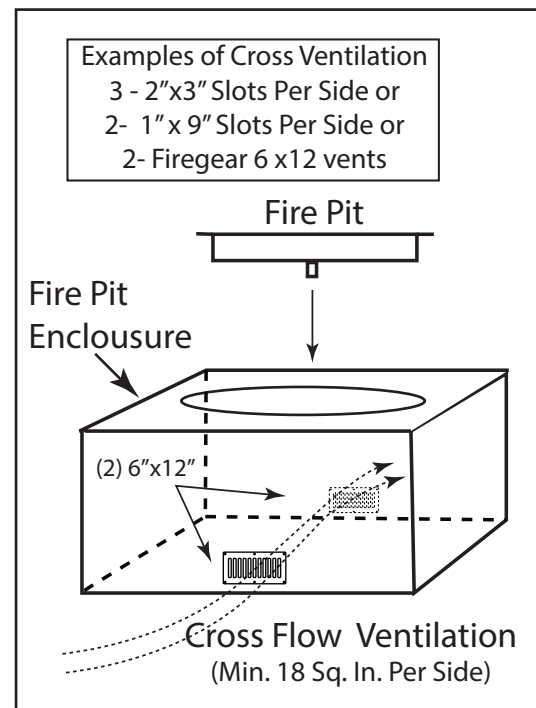

Fig. 2 Cross Ventilation Example
5. Do not place an LP tank inside any fire pit enclosure. Locate all propane (LP) tanks outside the enclosure.
6. To prevent performance problems in Propane (LP) fire pits, do not use a Propane tank less than 100lbs. capacity.
**WARNING:** Proper clearances from combustible materials must be maintained from all sides, top and bottom of this appliance. Use the specifications listed in Table 1 and Fig. 2 for proper clearance to combustibles.